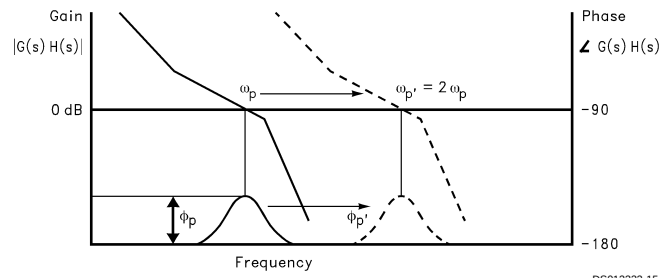

FIGURE 4. Open Loop Response Bode Plot
A plot of the magnitude and phase of $G(s)H(s)$ for a stable loop, is shown in *Figure 4* with a solid trace. The parameter ϕ_p shows the amount of phase margin that exists at the point the gain drops below zero (the cutoff frequency ω_p of the loop). In a critically damped system, the amount of phase margin would be approximately 45 degrees.
If we were now to redefine the cut off frequency, ω_p' , as double the frequency which gave us our original loop bandwidth, ω_p , the loop response time would be approximately halved. Because the filter attenuation at the comparison frequency also diminishes, the spurs would have increased by approximately 6 dB. In the proposed Fastlock scheme, the higher spur levels and wider loop filter conditions would exist only during the initial lock-on phase—just long enough to reap the benefits of locking faster. The objective would be to open up the loop bandwidth but not introduce any additional complications or compromises related to our original design criteria. We would ideally like to momentarily shift the curve *Figure 4* over to a different cutoff frequency, illustrated by dotted line, without affecting the relative open loop gain and phase relationships. To maintain the same gain/phase relationship at twice the original cutoff frequency, other terms in the gain and phase *Equations (5), (6)* will have to compensate by the corresponding " $1/w$ " or " $1/w^2$ " factor. Examination of *Equations (3), (4), (5)* indicates the damping resistor variable $R2$ could be chosen to compensate with " w " terms for the phase margin. This implies that another resistor of equal value to $R2$ will need to be switched in parallel with $R2$ during the initial lock period. We must also ensure that the magnitude of the open loop gain, $H(s)G(s)$ is equal to zero at $\omega_p' = 2 \omega_p$. K_{VCO} , K_ϕ , N , or the net product of these terms can be changed by a factor of 4, to counteract with w^2 term present in the denominator of *Equations (3), (4)*. The K_ϕ term was chosen to complete the transformation because it can readily be switched between 1X and 4X values. This is accomplished by increasing the charge pump output current from 1 mA in the standard mode to 4 mA in Fastlock.